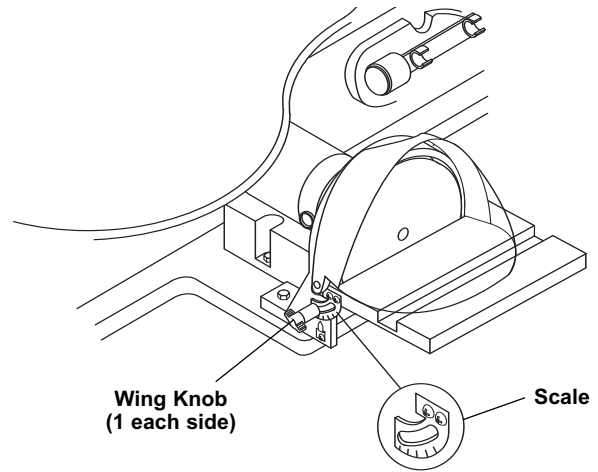

Figure 17. Adjusting the Side Table Angle
1. Loosen the side table lock knobs and move the side table to the desired angle. A scale is located under the left side lock knob (Figure 17).